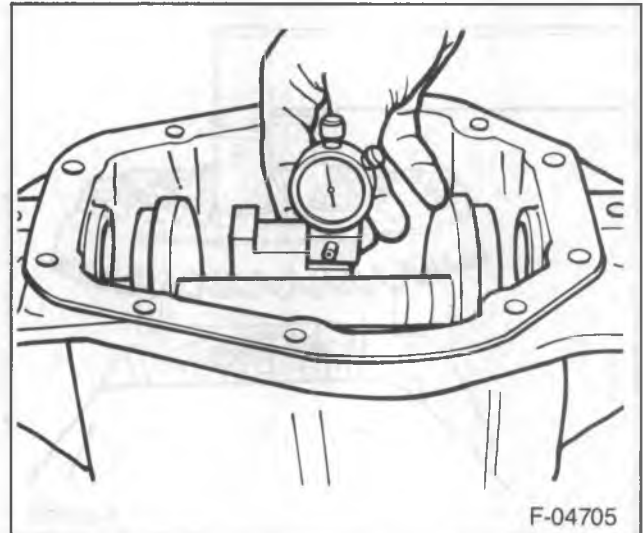

Figure 26—Scooter Gage on the Height Block
6. Place D-115 onto the height block (figure 26).